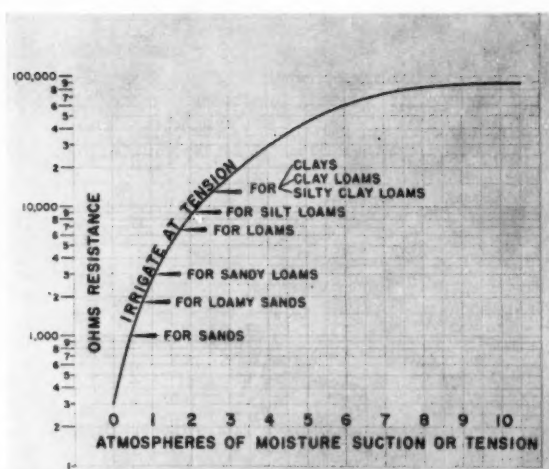

Fig. 1 Calibration in terms of atmospheres of soil moisture tension or suction
Fig. 1 shows a calibration of the new blocks (80 percent water) in terms of atmospheres of soil moisture tension or suction using the pressure membrane technique of Richards (6).